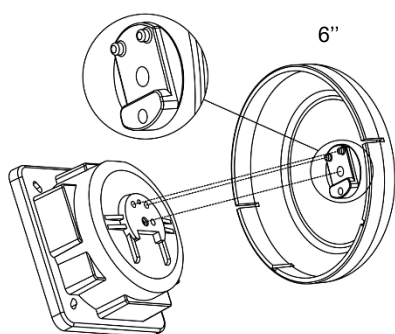

Figure 4.
5. Assembled the gong shell back. Make sure the pins on the gong shell in located correctly on the product cover. See Figure 4.